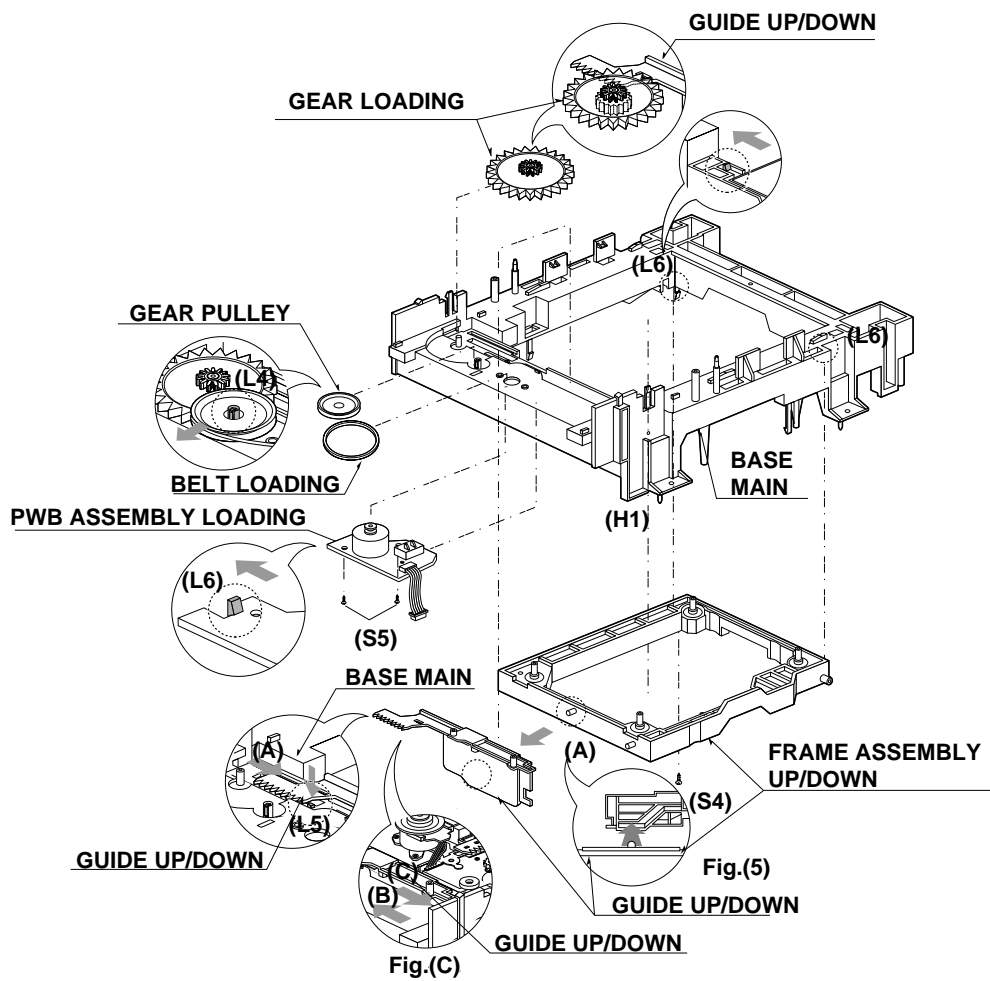

Fig. 5-11-4
6. Belt Loading(Fig. 5-11-4)
7. Gear pulley (Fig. 5-11-4)
- 1) Unlock the Locking Tab(L4) in direction of arrow(B) and then separate the Gear Pulley from the Base Main.
8. Gear Loading (Fig. 5-11-4)
9. Guide Up/Down (Fig. 5-11-4)
11. Base Main(Fig. 5-11-4)